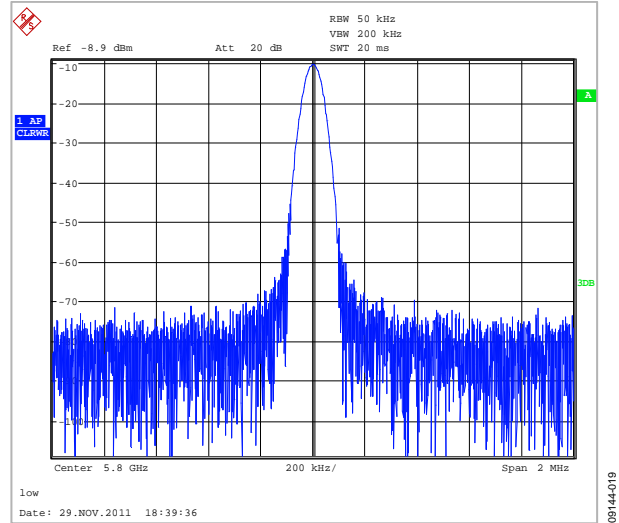

Figure 19. Spectrum Analyzer Display
6. In the software window, set the VCO center frequency (Figure 19 uses a 5800 MHz VCO). Set the PFD frequency to 1000 kHz, and program the reference frequency to equal that supplied to Connector J11 (or the TCXO). See Figure 20 for the suggested setup.
7. Measure the output spectrum. Figure 19 shows a 5800 MHz output.